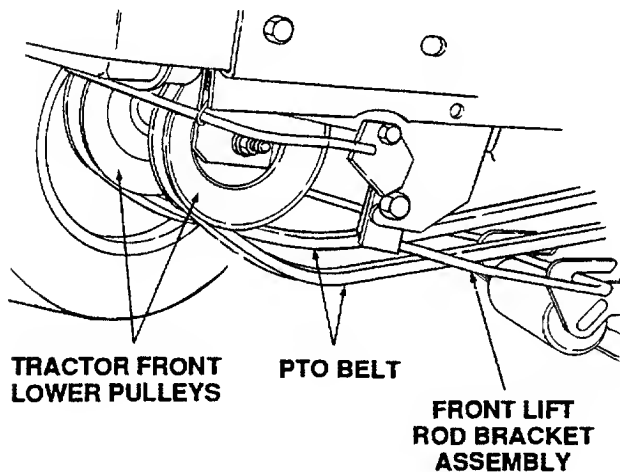

Figure 58
11. Twist the PTO belt 1/4 turn to engage the narrow sides of the belt into the grooves of the two tractor front-lower pulleys (Refer to Figure 58).